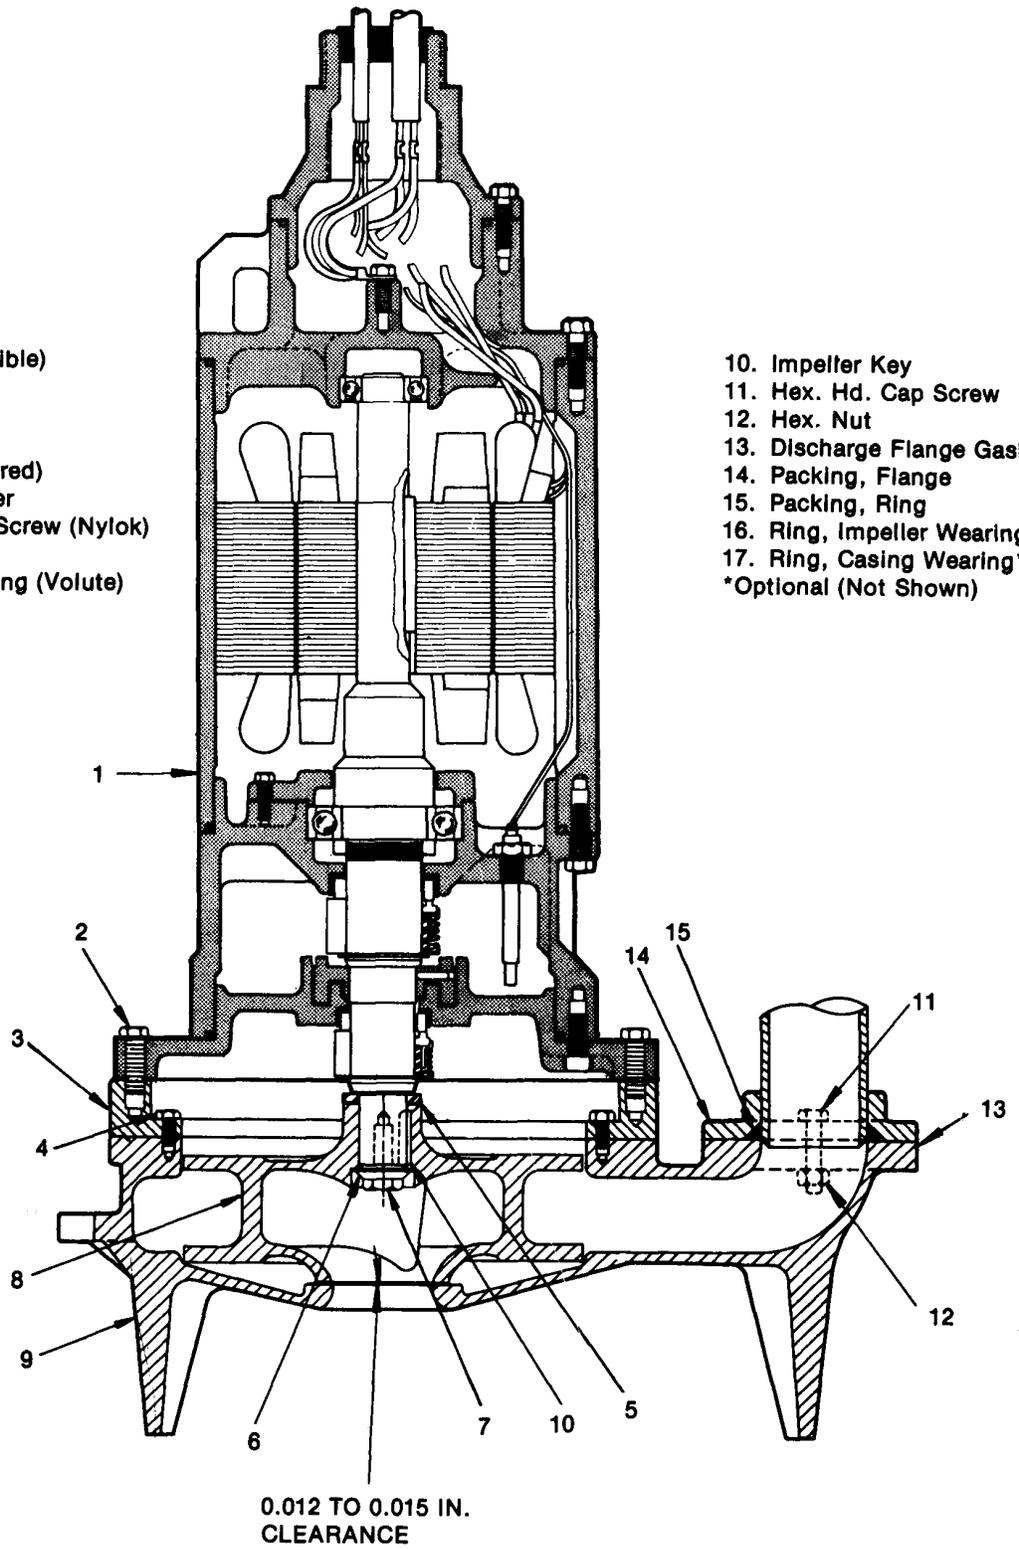

Figure 9. Type UW Sewage Pump
**DISASSEMBLY:** Disassemble sewage pump as follows (see figure 9):
1. Remove cap screws (2), remove motor (1) impeller (8) from volute casing (9).
2. Block impeller (8) and with socket wrench, unscrew impeller screw (7) by turning counter clockwise (as viewed from pump section).
3. Slide impeller from shaft, retain impeller washer (6) key (10) and shims (5) if used.
4. To remove pump packing ring flange (14) remove bolts (11) and nuts (12).
5. To remove motor adapter plate (3) from volute casing (9) remove cap screws (4).
6. Packing ring (15) may be removed from packing ring flange (14) by prying out with a screwdriver.
When ordering replacement parts always furnish data stamped on nameplate attached to the pump. Give the index number and part name as shown on figure 9.
**ASSEMBLY:** Assemble pump parts as follows (see figure 9):
1. Lightly oil new packing ring (15) and insert in flange (14).
2. Place new gasket (13) on casing (9), install flange (14) and attach with 2 each screws (11) and nuts (12). Tighten nuts securely.
3. If removed, align adapter plate (3) on casing (9) and attach with cap screws (4), tightening securely.
4. Install same shims (5), as removed in disassembly, on motor shaft.
5. Using a hoist, lower motor (1) and impeller to engage casing.
**NOTE:** If impeller or shims have been replaced, measure clearance with feeler gage between impeller bottom and inside surface of casing at suction port. If not within limits shown on figure 9, use shims (5) as required to obtain proper clearance.
6. Install cap screws (2) and snug hand tight. Manually rotate impeller to check that there is no interference. If there is interference, shift motor, within screw clearance, by tapping with plastic hammer, lightly at point of interference. Continue to rotate impeller and tap around circumference until all interference is removed. Cross tighten screws uniformly and securely.